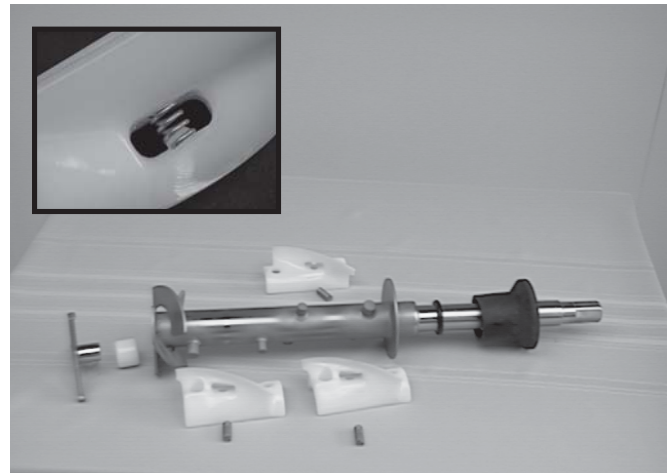

Figure 24. Exploded View of Auger
- D. Screw the springs onto the studs in plastic flights. **Springs must be screwed into the flights completely** to provide compression (Fig. 24).